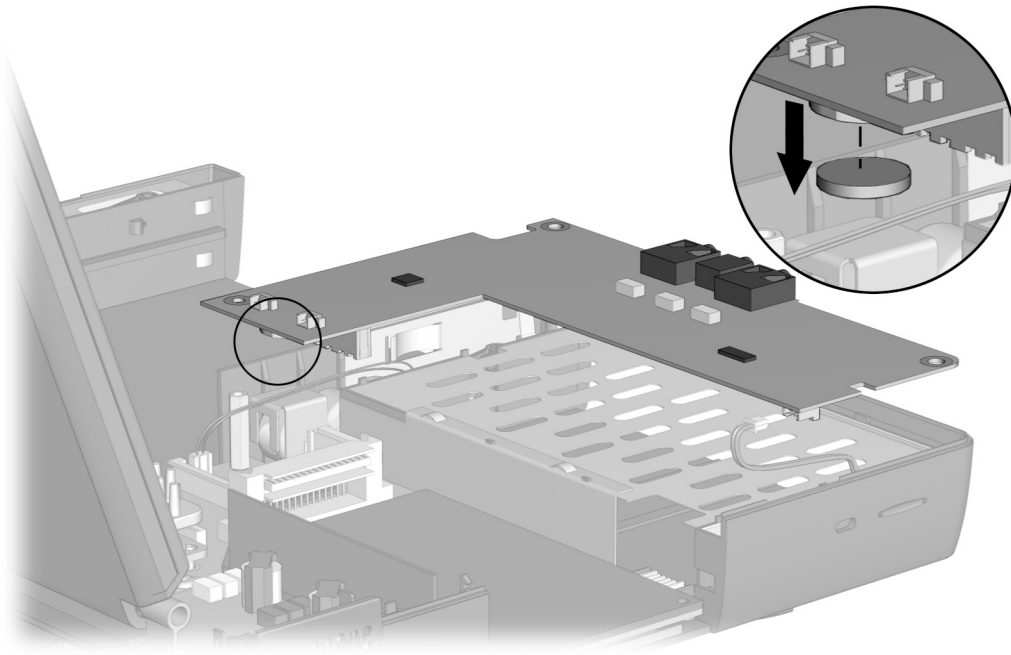

Figure 5-40. *Removing the Lithium Disk Cell Battery*
7. Remove the lithium disk cell battery from the bottom of the audio board (Figure 5-40).